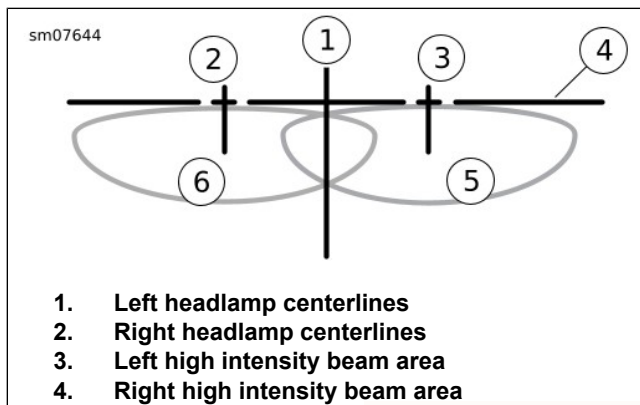

Figure 82. Headlamp Beam Pattern: HDI
7. With the motorcycle loaded, point the front wheel straight forward at wall. Measure the distance (4) from the floor to the center of the low beam bulbs.
8. Draw a horizontal line (5) at the measured bulb centerline.
10. See Figure 82. Mark the headlamp centerlines (1, 2) on the wall to intersect the horizontal line.
4. See Figure 82. Turn headlamps on low beam. Cover the right headlamp. Adjust left headlamp so the top of the high intensity zone (3) is below and centered under the left centerlines.
5. See Figure 82. Cover the left headlamp. Adjust right headlamp so the top of the high intensity zone (4) is below and centered under the right auxiliary/fog lamp centerlines.